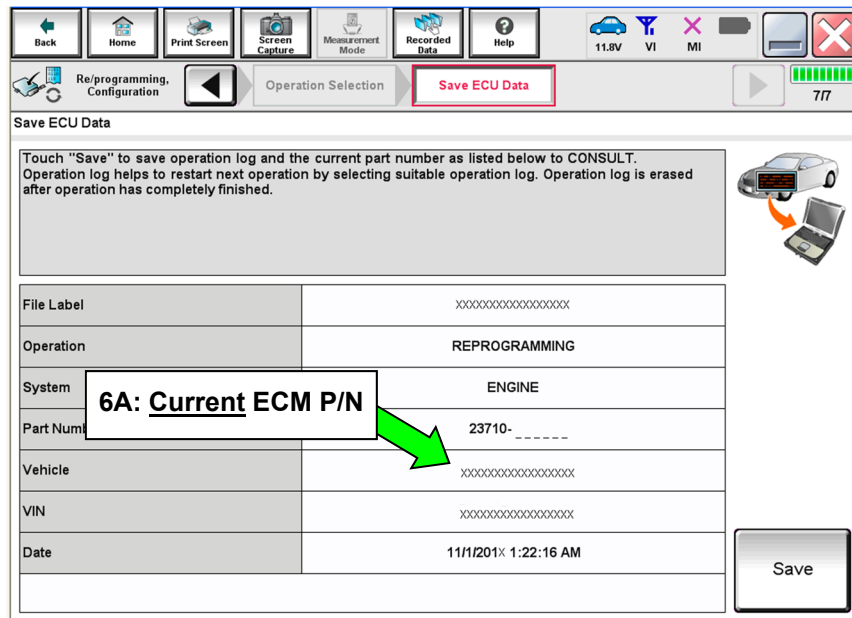

Figure 6
5. Follow the on-screen instructions and navigate C-III plus to the screen shown in Figure 6 on the next page.
6. When you get to the screen shown in Figure 6, confirm this bulletin applies as follows.